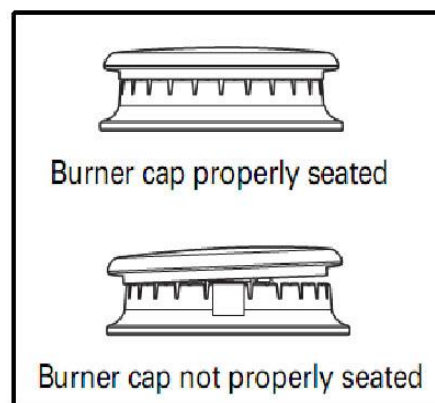

Figure 5
- Make sure each burner cap is properly aligned and level (see Figure 5).